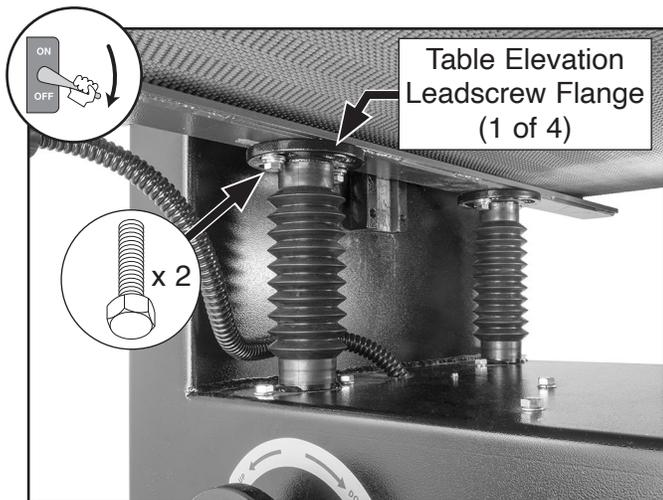

Figure 94. Example of table flange components.
3. With wood block still positioned at rear left corner of conveyor table, locate elevation leadscrew flange (see **Figure 94**) at corner that needs to be adjusted.
4. Loosen (2) hex bolts on flange (see **Figure 94**). Rotate flange a small amount to adjust that corner of table until it is within 0.003" of measurement of wood block taken in **Checking Table Parallelism**.